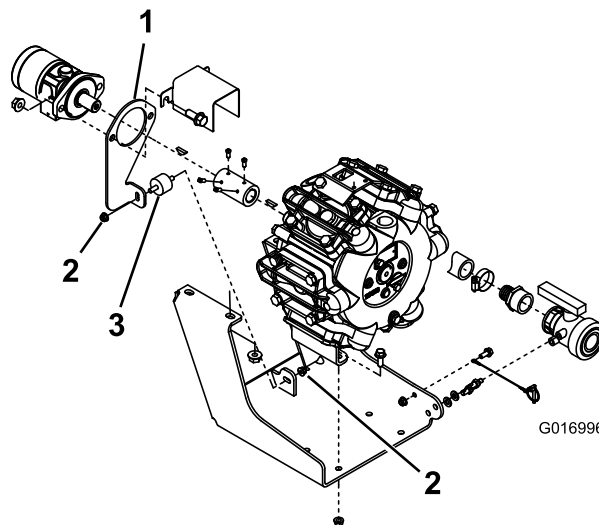

Figure 1
3. Remove the 2 flange nuts that secure the rubber vibration mount to the motor mount plate, and remove the rubber vibration mount (Figure 1).